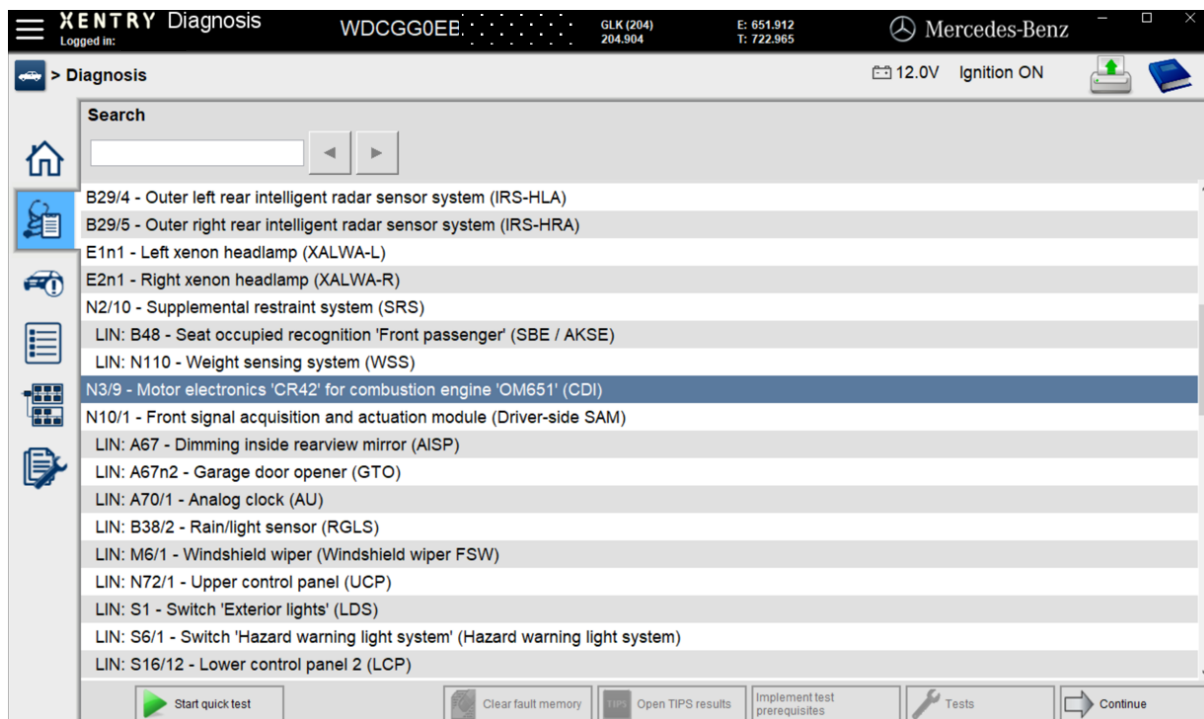

Figure 8
15. Perform Xentry procedure “Service Measure Exhaust Aftertreatment System” (Figure 8 to 10).